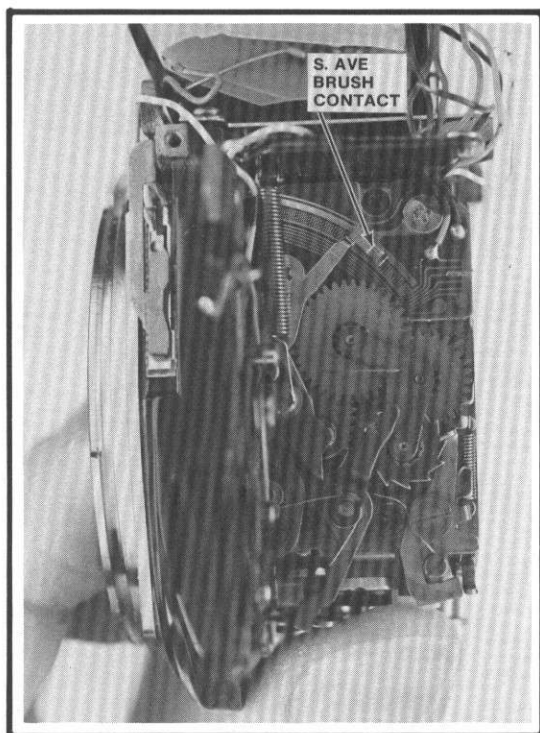
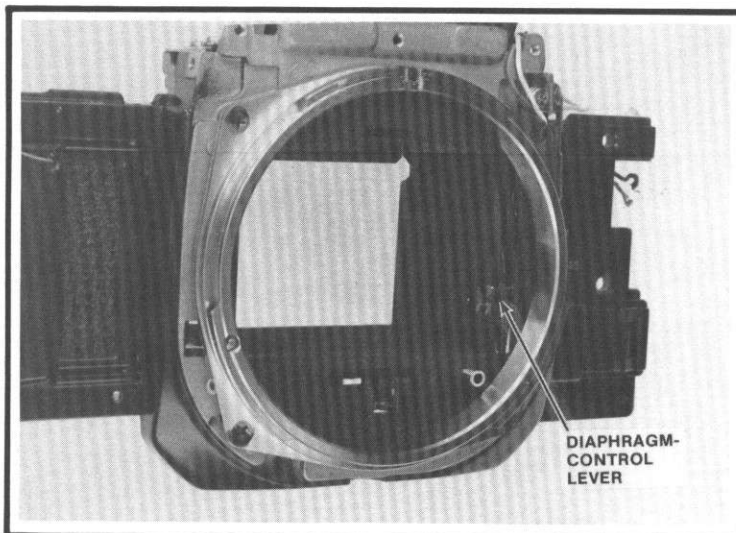
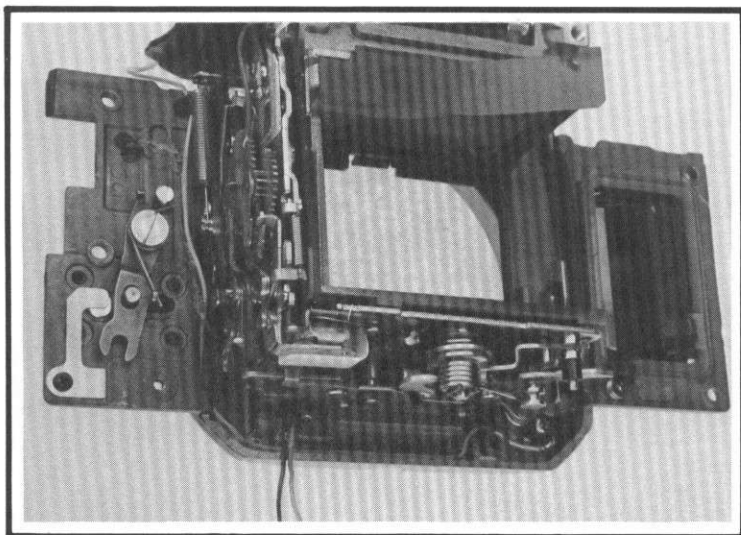

Figure 48
Figure 55
Figure 60
To check the S.AVE brush, use your thumb to simultaneously hold both the control-arm latch and the stop pawl disengaged. Now, from the front of the lens opening, pull down the diaphragm-control lever. The S.AVE brush should move along the AE pattern board, Fig. 48.
4. Hold the S.AVE-contact latch and the locking pawl disengaged, Fig. 48. Now pull down the diaphragm-control lever until it aligns with the clearance slot at the front of the mirror housing, Fig. 55.
3. Seat the two units on the mirror housing, Fig. 60. The end of the diaphragm-control lever must pass through the slot in the side of the mirror housing, Fig. 55.